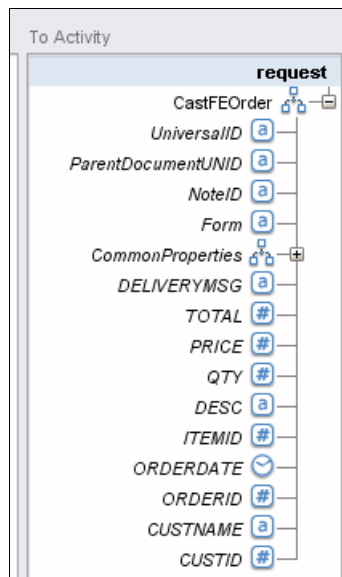

Figure 12-69 Target field from Domino's database form
5. You will now start an extensive mapping. The target fields are highlighted on the bottom of the right panel (To Activity), shown in Figure 12-69.
**Hint:** Collapse the CommonProperties node to simplify the mapping view. See Figure 12-69.